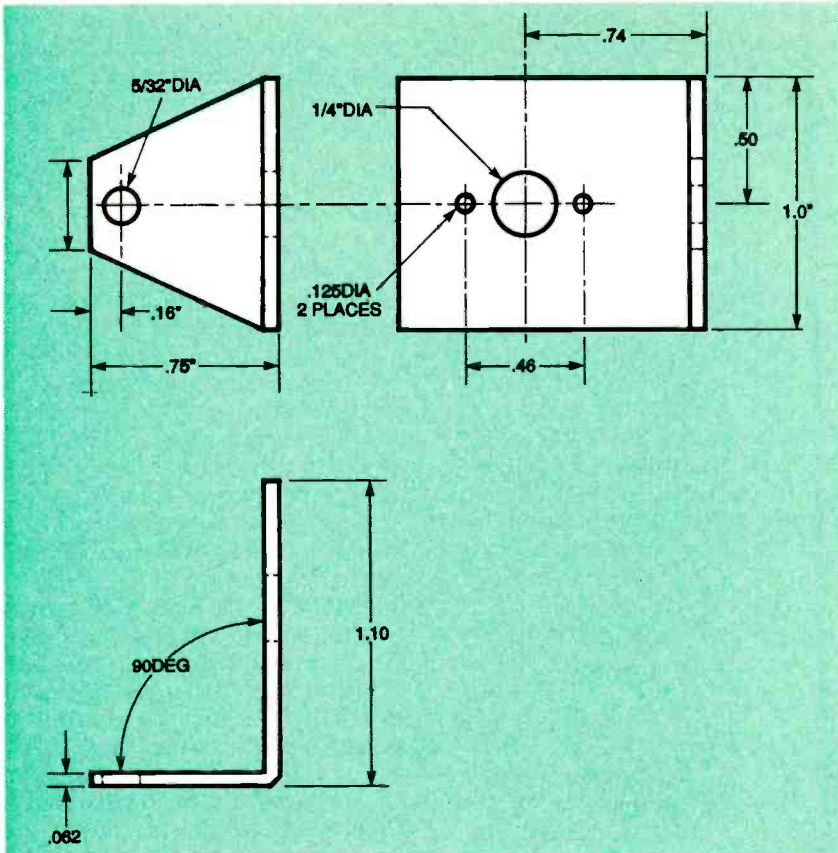

FIG. 4—RIGHT-ANGLE ALUMINUM brackets. These are attached to the motors and can pivot on the base for alignment adjustments.
**Miscellaneous:** 9-volt DC, 300 mA wall outlet adapter; plastic enclosures (remote, Serpac A-21; base unit, Serpac A-31); knobs for potentiometers; three aluminum motor brackets (see Fig. 4); three 1-inch diameter round plastic mirrors and three plastic mounting disks; two PC boards; two 14-pin IC sockets; 3-foot, 6-conductor modular cord; No. 24 gauge stranded wire; hardware; glue; solder.
The three motors and their mirrors must be mounted securely and aligned accurately to properly deflect the laser beam. The right-angle aluminum brackets shown in Fig. 4 attach to the motors and can pivot on the base for alignment adjust-